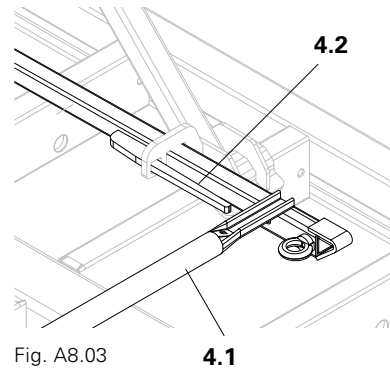

Fig. A8.03
4. Slide on strut (4.1) and secure with ring bolts. (Fig. A8.03)